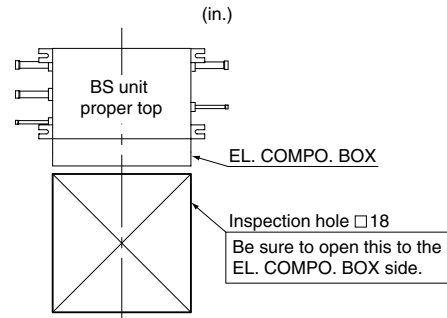

Fig. 2
- Locations where an inspection hole (Refer to Fig. 2) can be installed to EL. COMPO. BOX side (See Note).